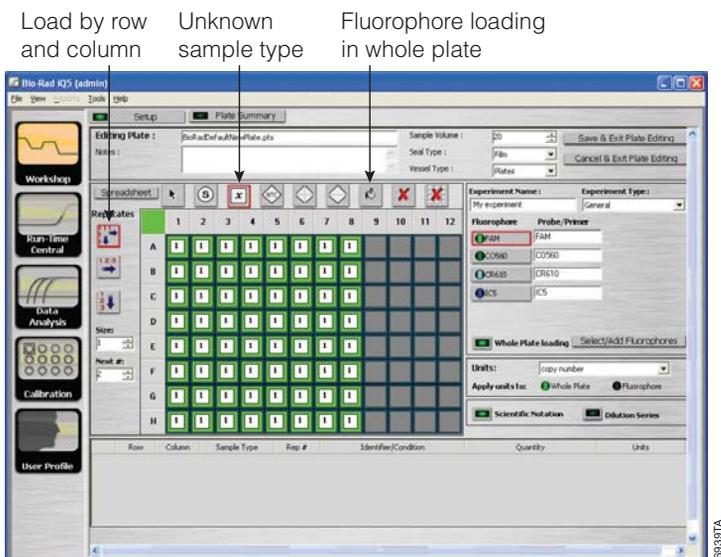

Figure 10. The iQ™5 Plate Setup Editor.
1. In the Workshop module Setup tab, select “Plate”, and then select “Create New” in the selected Plate Setup window (Figure 8, lower right panel). The Plate Setup Editor will launch (Figure 10).